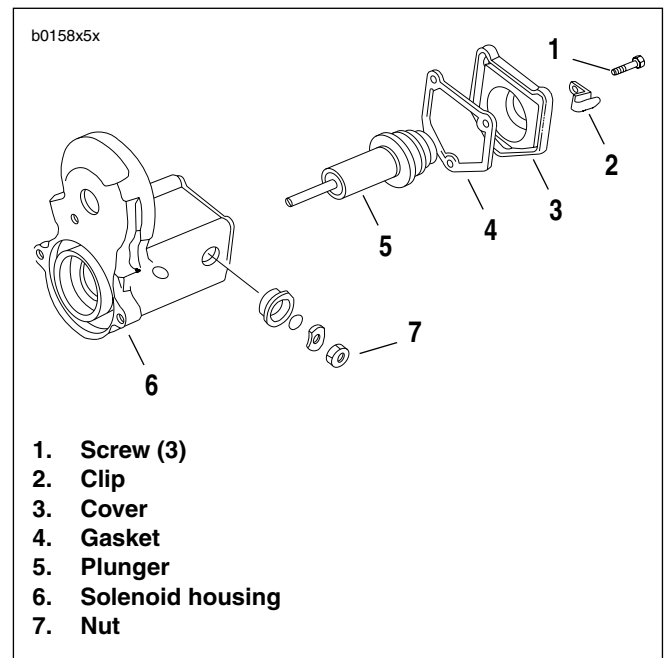

Figure 5-28. Starter Solenoid
See **Figure 5-28**. Do not tighten nut (7) without removing items (1) through (5). Movement will cause damage to the contact.
1. See **Figure 5-28**. Remove screws (1) and clip (2).
2. Remove cover (3) and gasket (4). Discard gasket.
3. Remove plunger (5) from solenoid housing (6).
1. See **Figure 5-28**. Replace wire connection hardware as necessary.
2. Install plunger (5) in solenoid housing (6).
3. Install **new** gasket (4) onto cover (3).
4. Position cover with gasket onto solenoid housing. Install clip (2) and screws (1).